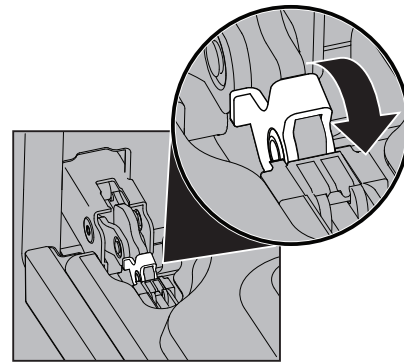

Figure 19: Door hinge lock
2. Pull up the lock located on each hinge support toward front of the oven until the lock stops. You may have to apply a little upward pressure on the lock to pull it up (Figure 19).
4. Push the door hinge locks up toward and into the oven frame on both left and right oven door hinges to the locked position (Figure 19).